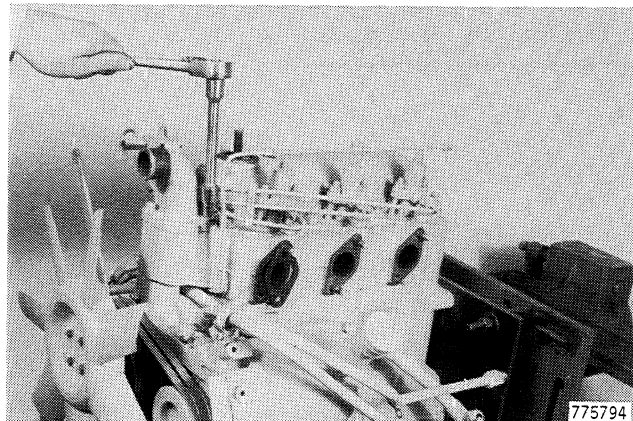

Figure 173
- Install the cap screw that retains the injector return tube clamp, Figure 173.